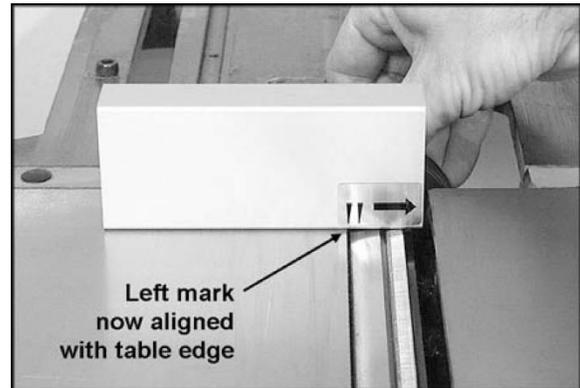

Figure 15
11. Rotate the cutterhead clockwise. If the outfeed table and knives are set correctly, the knife will contact the gauge and move it until the left mark lines up with the edge of the outfeed table, as shown in Figure 15.